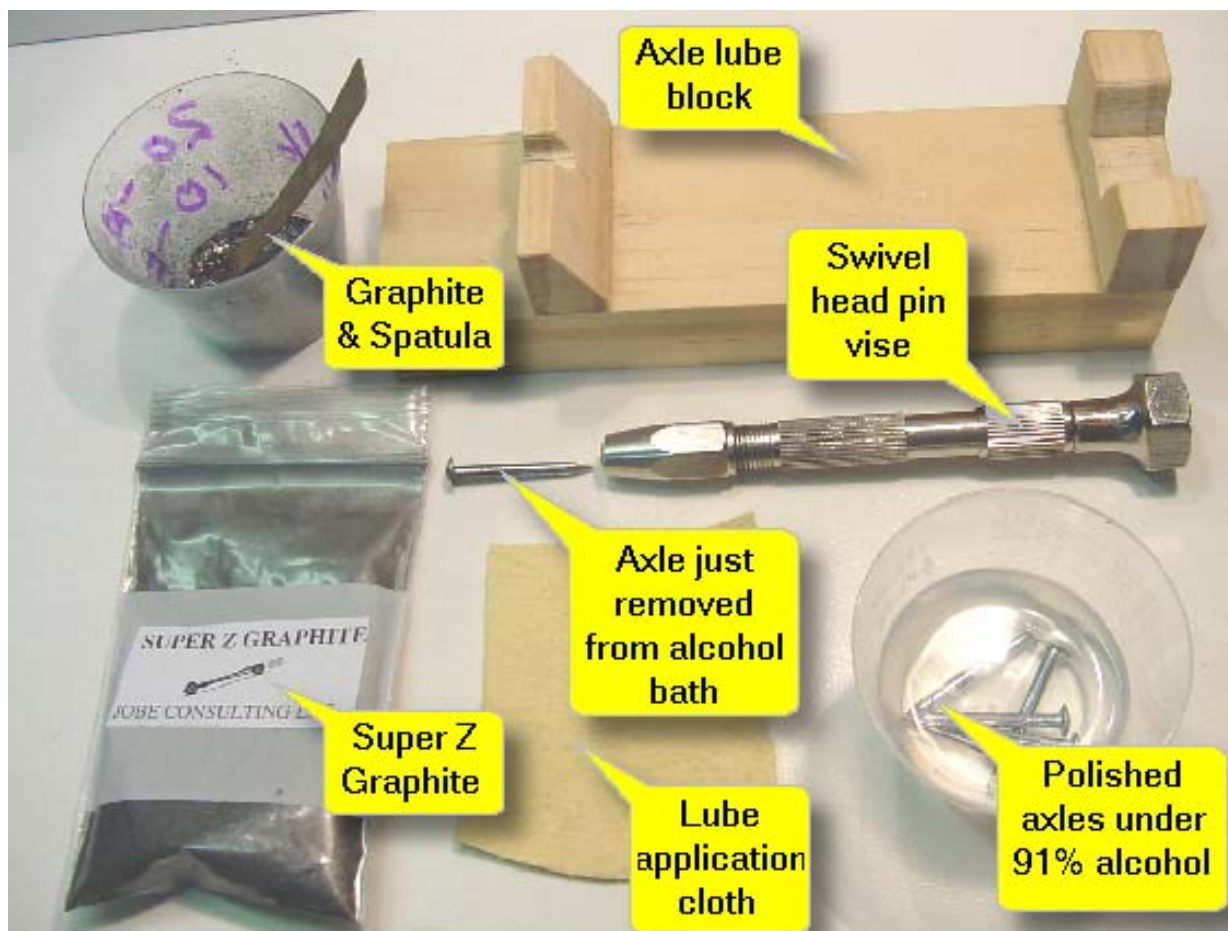

Figure 11 - Setting up the pieces for applying graphite to the axle.
- Next we should prepare our equipment for axle lubrication as in **Figure 11**.
- All items below are from the speed package except the brass spatula which is item 9 from the Grab Bag.